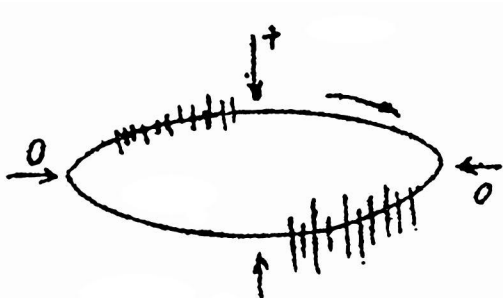
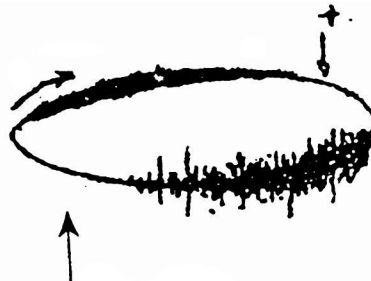

Fig. 17a
Fig. 17b
b) For the discharge of bubbles between metal and dielectric (see Fig. 17a), there are many discharges with small amplitude in the positive half cycle and a few with large amplitude in the negative half cycle, and the amplitude difference can reach 10:1. Others are the same as above. A typical example is the discharge of polyethylene cable with poor adhesion between insulation and conductor. If the discharge amplitude increases with the increase of the test voltage, and the discharge waveform becomes fuzzy, it often contains multiple bubbles of different sizes, or the discharge occurs between the exposed metal and the dielectric surface (see Fig. 17b).